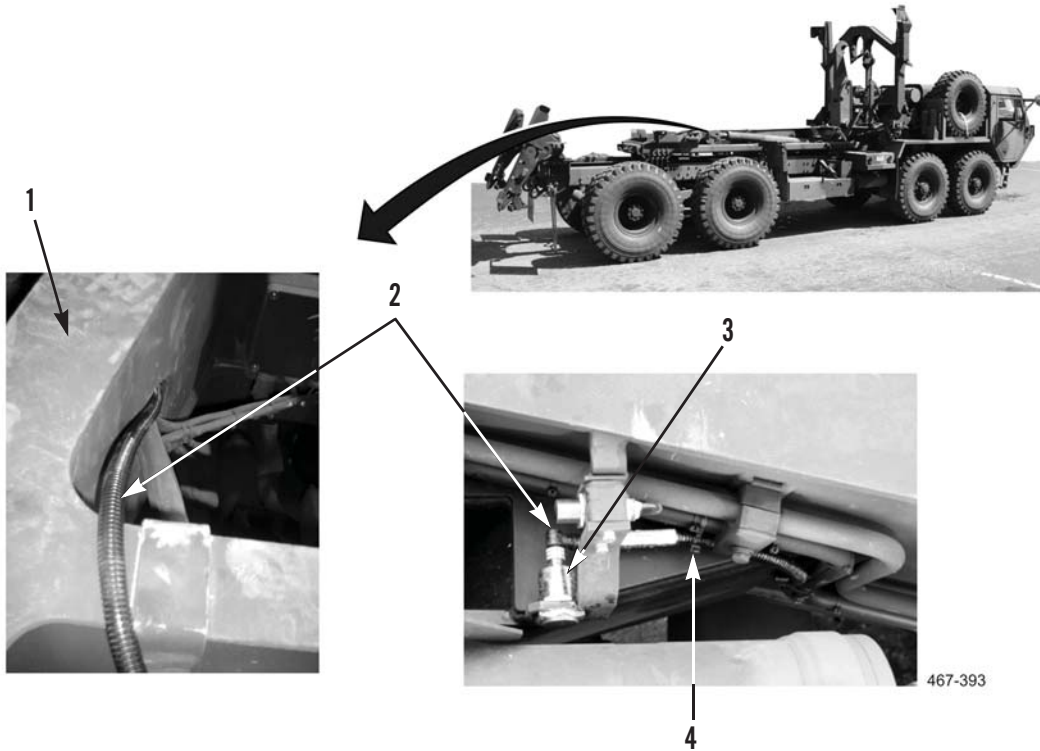

Figure 3. Hook Arm Sensor Harness Removal.
1. Disconnect hook arm sensor harness (Figure 3, Item 2) from hook arm sensor (Figure 3, Item 3).
2. Remove and discard tiedown straps (Figure 3, Item 4) as required.
3. Pull hook arm sensor harness (Figure 3, Item 2) back through hook arm frame (Figure 3, Item 1) toward rear of vehicle.